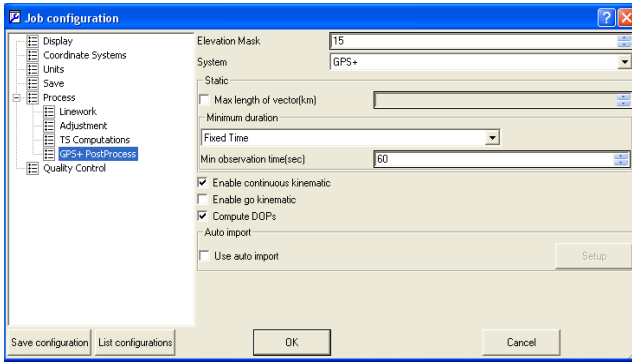

Figure 2-46. Job Configuration – GPS+ PostProcess
- The *GPS+ PostProcess* sub-menu (Figure 2-46 on page 2-38) sets the following parameters: